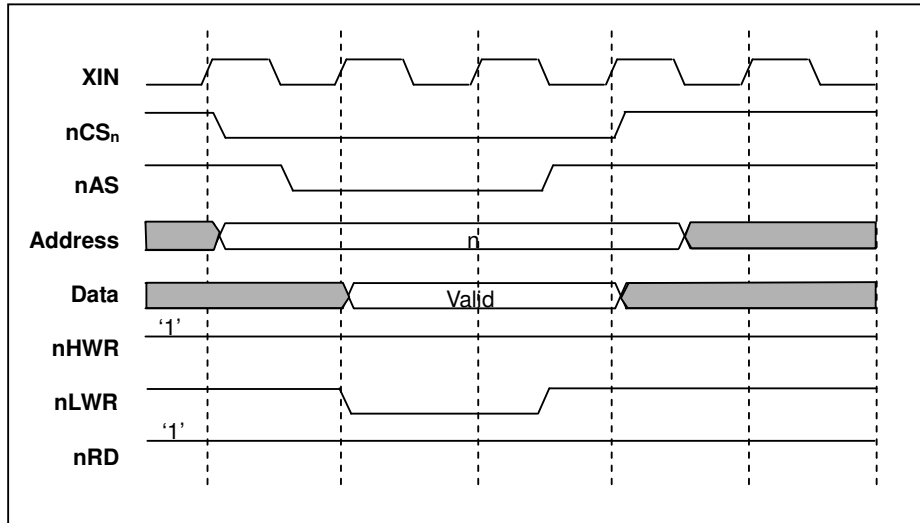
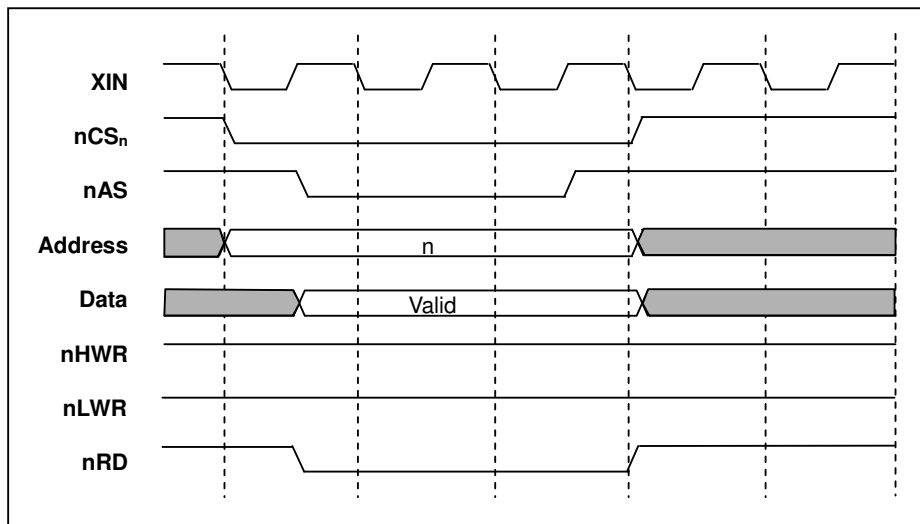

**Figure 3.13** Bus Control Signal Write Timing for 16-Bit, 2-Wait (Half-Word Access)
**Figure 3.14** Bus Control Signal Read Timing for 16-Bit, 2-Wait (Half-Word Access)
**Figure 3.13** shows the write timing of bus control signals for a 16-Bit 2-wait-access area (In case of half-word access). **Figure 3.14** shows the read timing of bus control signals for a 16-Bit 2-wait-access area (In case of half-word access).